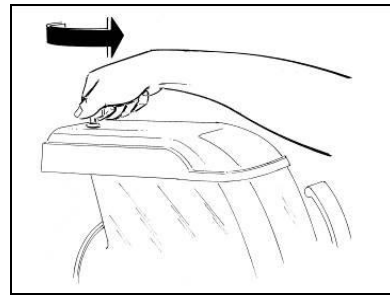
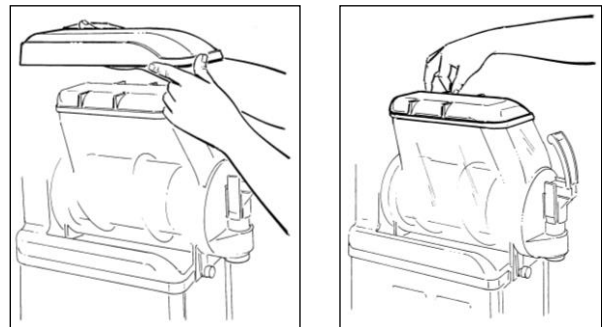

Fig. 1
Fig. 2
**T**he machine has to be placed on a sturdy, horizontal surface making sure it is well ventilated by leaving a gap of 20 cm around it and do not install it near heat sources (fig.1); we recommend you to maintain a room temperature between 24 and 32°C (between 75°F and 90°F).
- **A**fter unlocking the main cover with its key (fig.1), remove the main cover and the secondary one under it (fig.2).